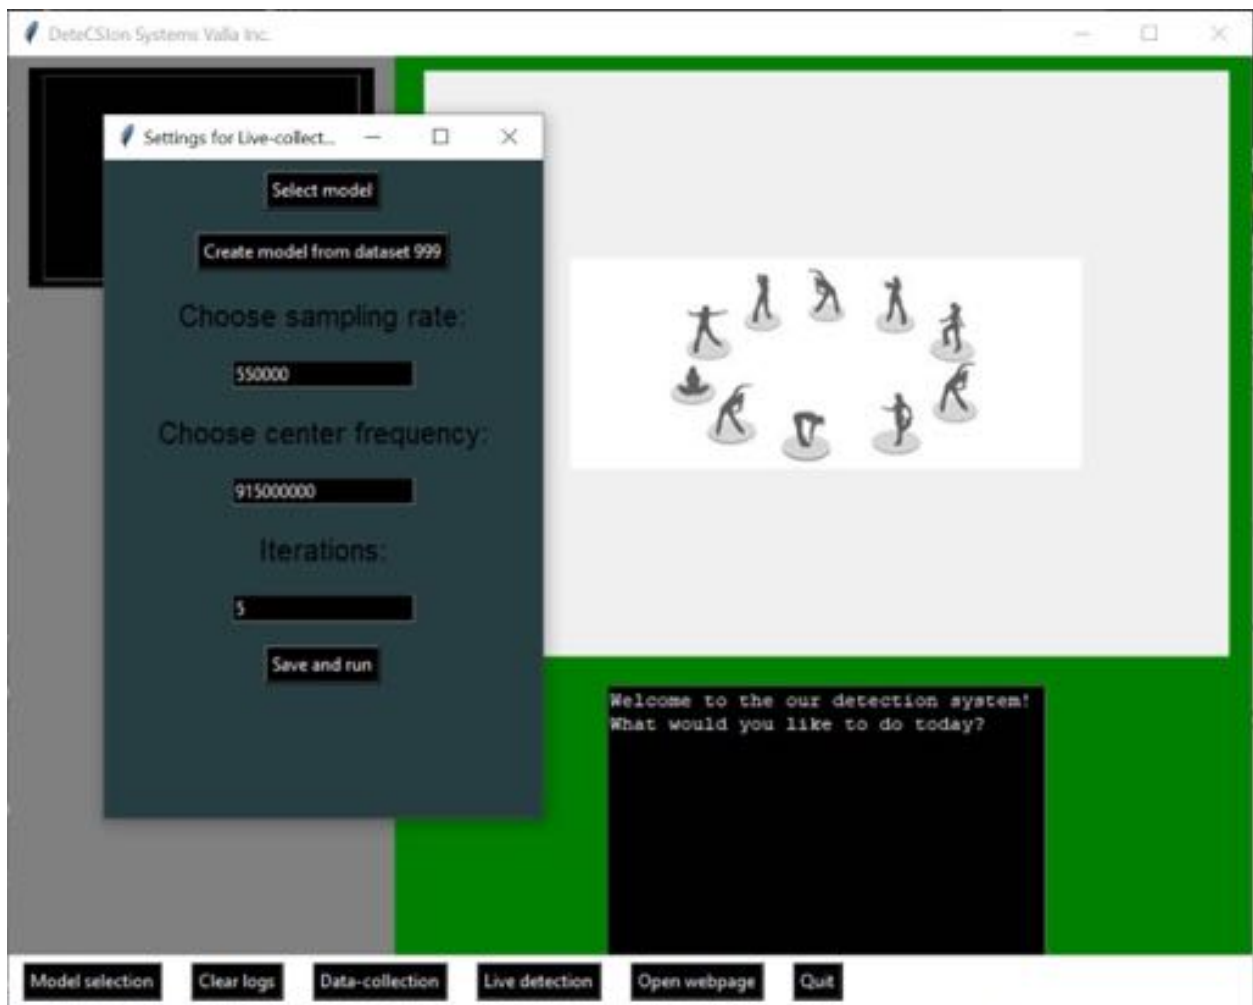

Figure 11: Preparing for the live classifications.
At last, now that we have collected data, from which we have created our brand new detection model, we can finally start our live classification. In Figure 11, we can select an existing model, or create a new model using our recommendation by clicking the button “Create model using dataset 999”, and then selecting the newly created model. We recommend using the default settings, but you can alter the amount of iterations the program runs freely. The program will collect data for five (5) seconds, and then give a prediction on the activity in the room. The live prediction will tell you which of the available classes in the data set that most likely occurred in the room. Performance can not be guaranteed if many different activities are used in the data set, but discrimination between static and dynamics event will be good if used in the training environment.